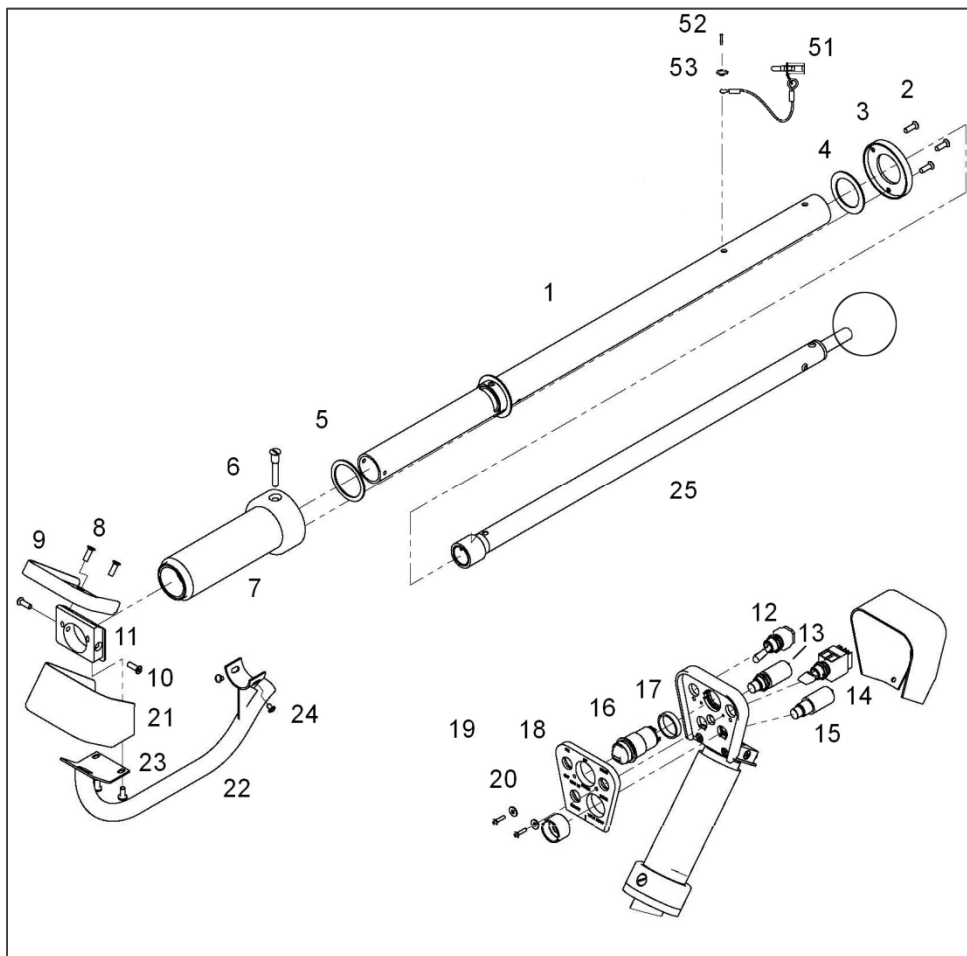

Figure 2. Collective Stick Assembly
- 6.7 (Reference Figure 2) Disassemble the collective stick assembly (1) to remove the throttle control tube assembly (25).